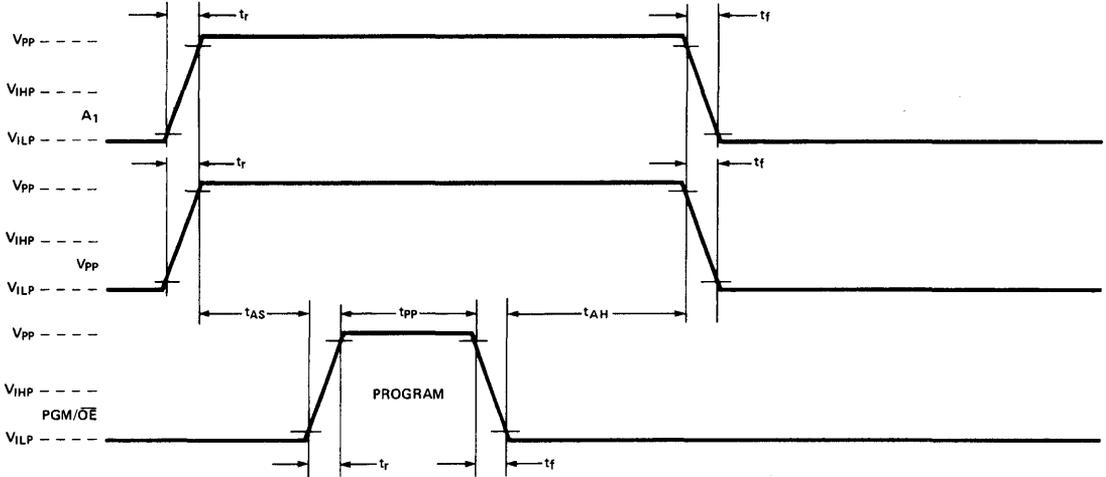

Figure 8. Activating Program Security
- See Figure 8 for security programming sequence.